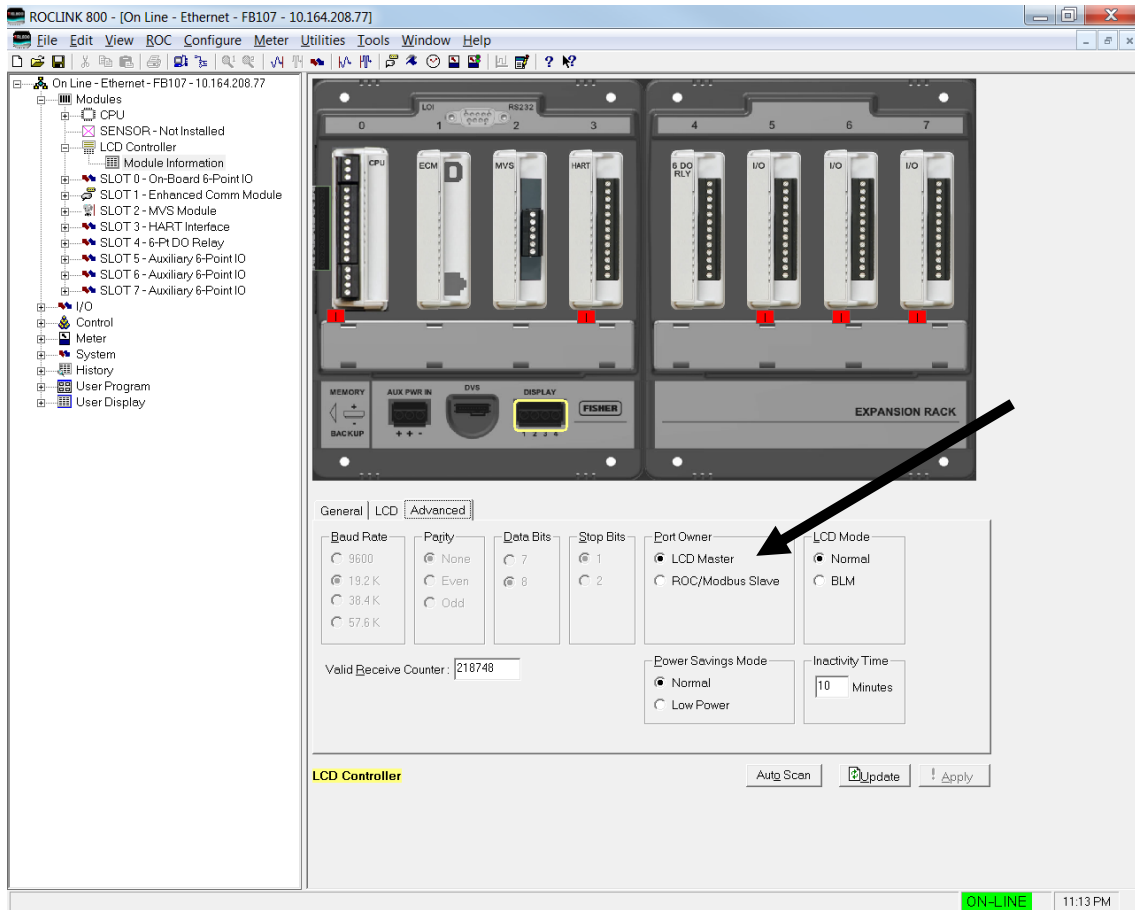

Figure 2-4. LCD Controller, Advanced tab
**Note:** Figure 2-4 also shows the other default comm values (Baud Rate, Parity, Data Bits, Stop Bits, and LCD Mode) for the FB107.